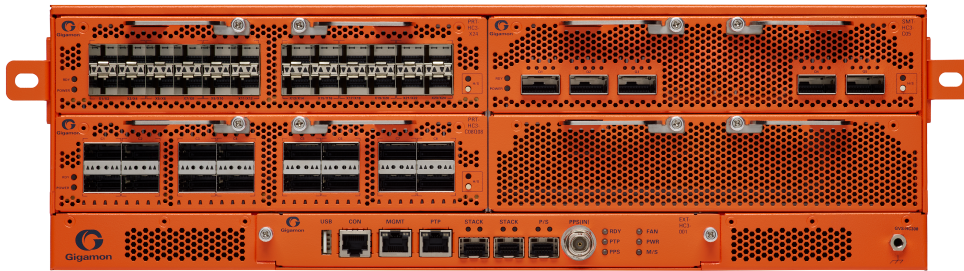

Figure 12 *Modules Installed*
4. Tighten the thumb screws on the levers, then use a Phillips screwdriver to tighten the screws. Refer to Figure 12 *Modules Installed*.